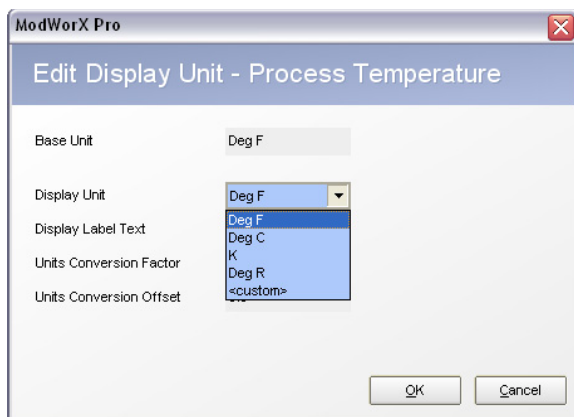

Figure 6.12
- a. Click **Edit**. The Edit Display Unit dialog will appear (Figure 6.12, page 82).